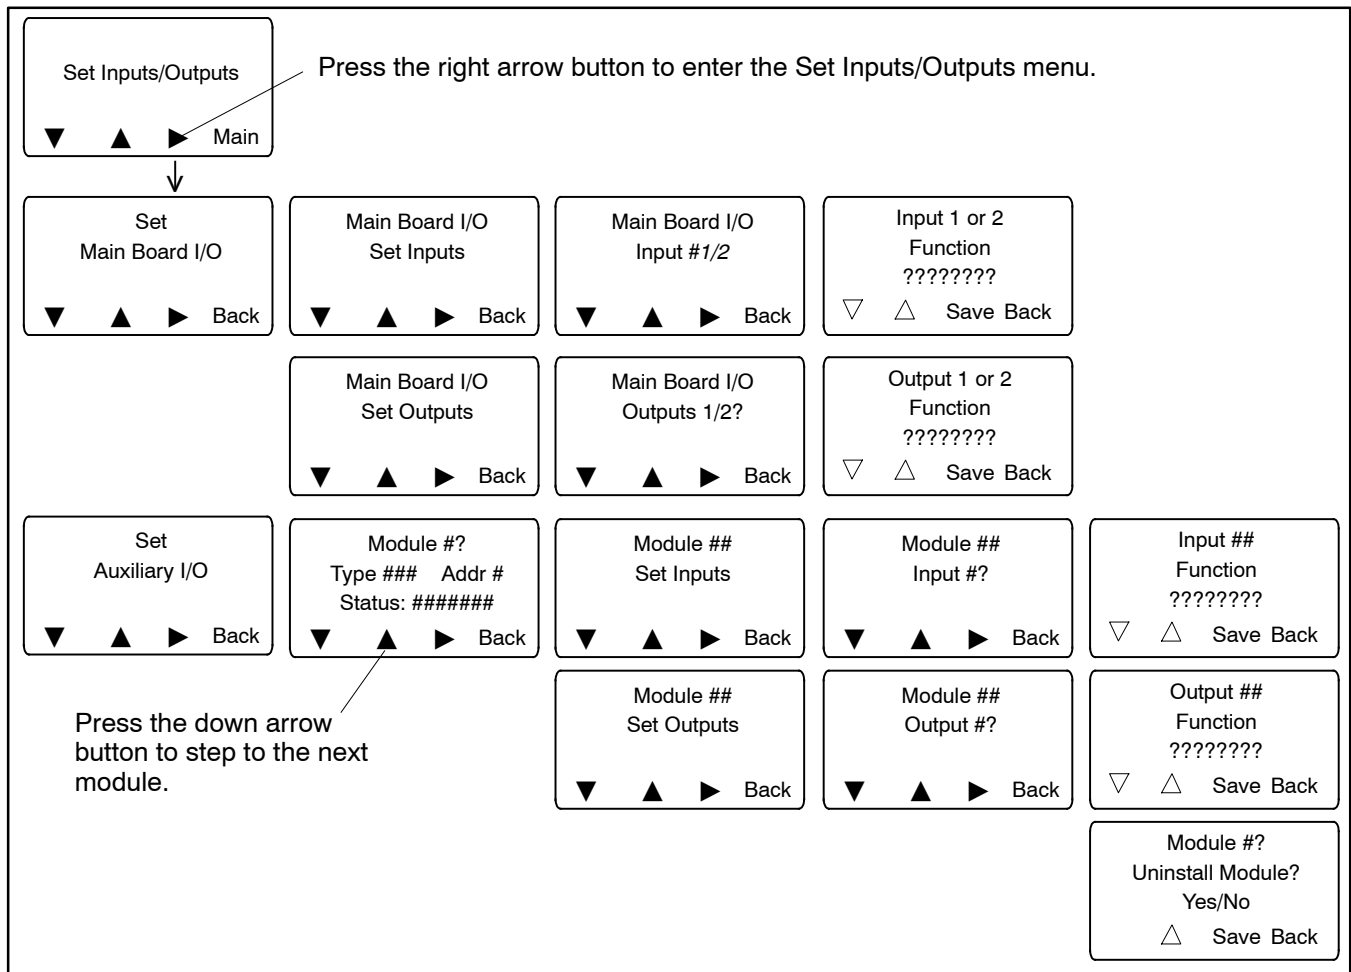

Figure 4-10 Assigning Inputs and Outputs
- Using the controller's keypad and display; see Figure 4-10.